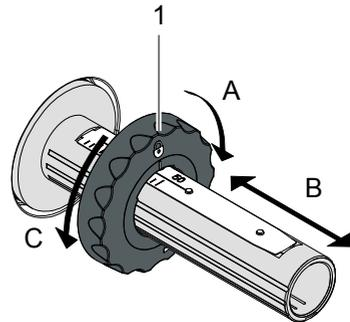

Fig. 11 Guide Adjustment
2. Turn lever (6) counterclockwise to open the printhead.
3. Set guide (1) on both hubs to the correct transfer ribbon width (Fig. 11):
- Hold hub and unlock guide (1) by turning it in direction A.
4. Load transfer ribbon (4) on the hub (5) until it reaches the guide in a way that the color coating of the ribbon faces the opposite side of the printhead after being loaded.